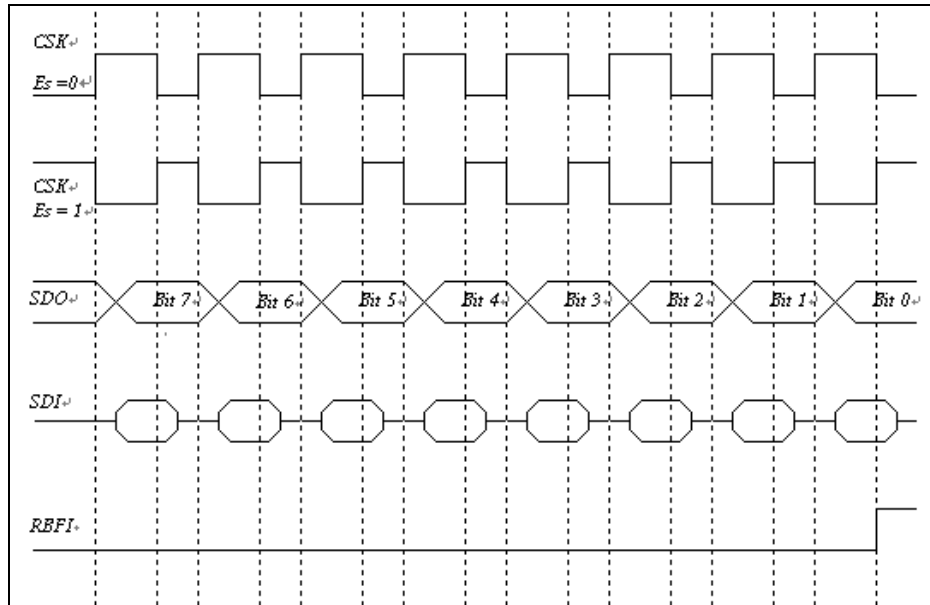
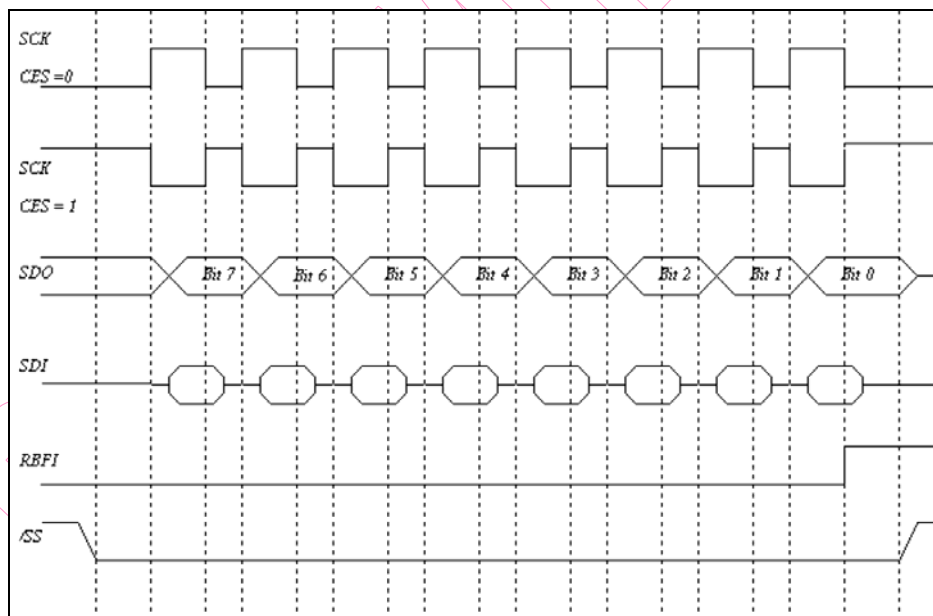

Fig. 24 SPI Mode with /SS Disabled
Fig. 25 SPI Mode with /SS Enabled
- Timing is shown in Fig. 24 and 25
- Timing is show in Fig. 24 and 25
The SCK edge is selected by programming bit CES. The waveform shown in Fig. 24 is applicable regardless of whether the EM78F648N is in master or slave mode with /SS disabled. However, the waveform in Fig. 25 can only be implemented in slave mode with /SS enabled.